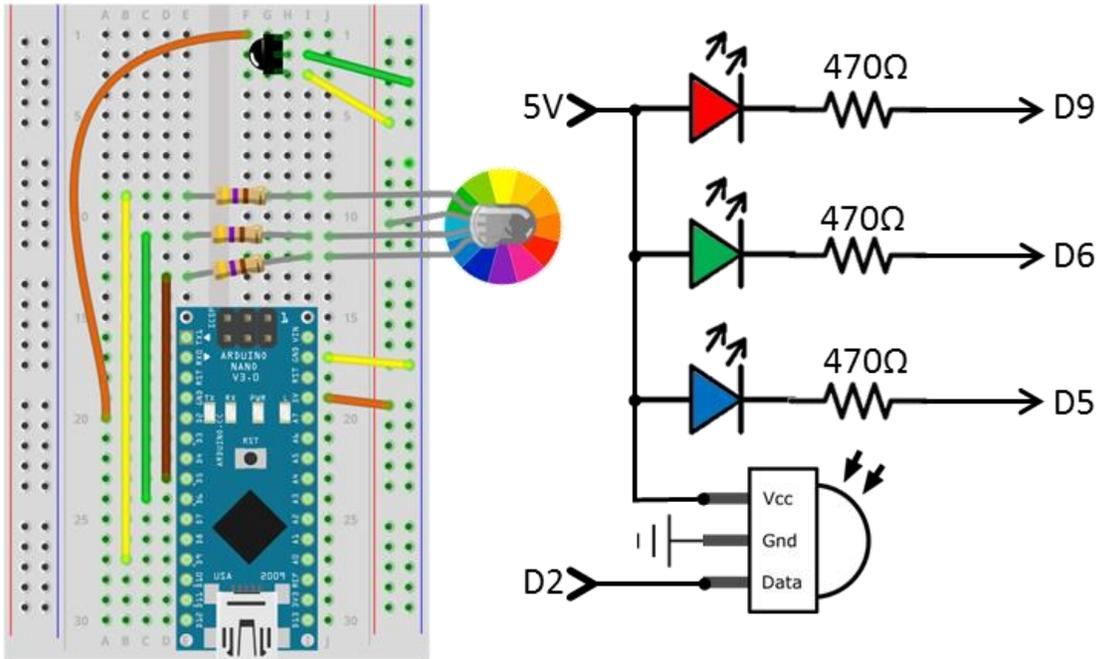

Figure 34: IR-RGB layout diagram (left) and circuit diagram (right).
Infrared (IR) is just outside of the visible light spectrum, so it cannot be detected by an unaided human eye. Remote controls for most TVs and cable boxes use IR to communicate. SeaGlide also utilizes an IR remote for control. The circuit in Figure 34 will respond to IR commands from a remote, decode the remote's button ID, and then print it to the serial monitor along with values for the three LEDs.